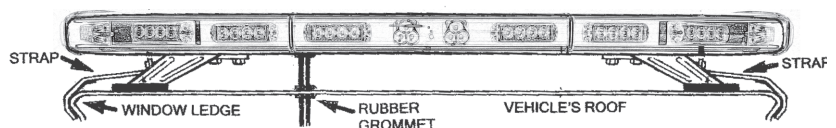

Fig. 1
2. Make sure the selected location of the light bar will allow the stainless steel straps to attach to the vehicle window ledge on both the driver's and passenger sides. See fig 1.